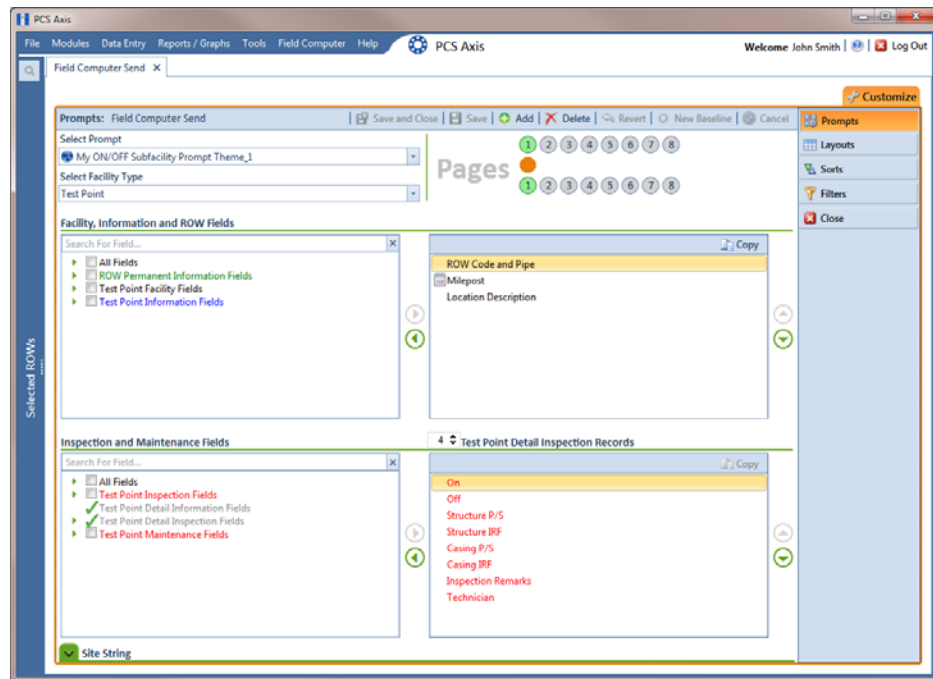

Figure 13-33. Test Point Detail Inspection Prompts
- b Double-click the fields labeled **ON** and **OFF** to move these fields to the right pane (Figure 13-33, page 596).